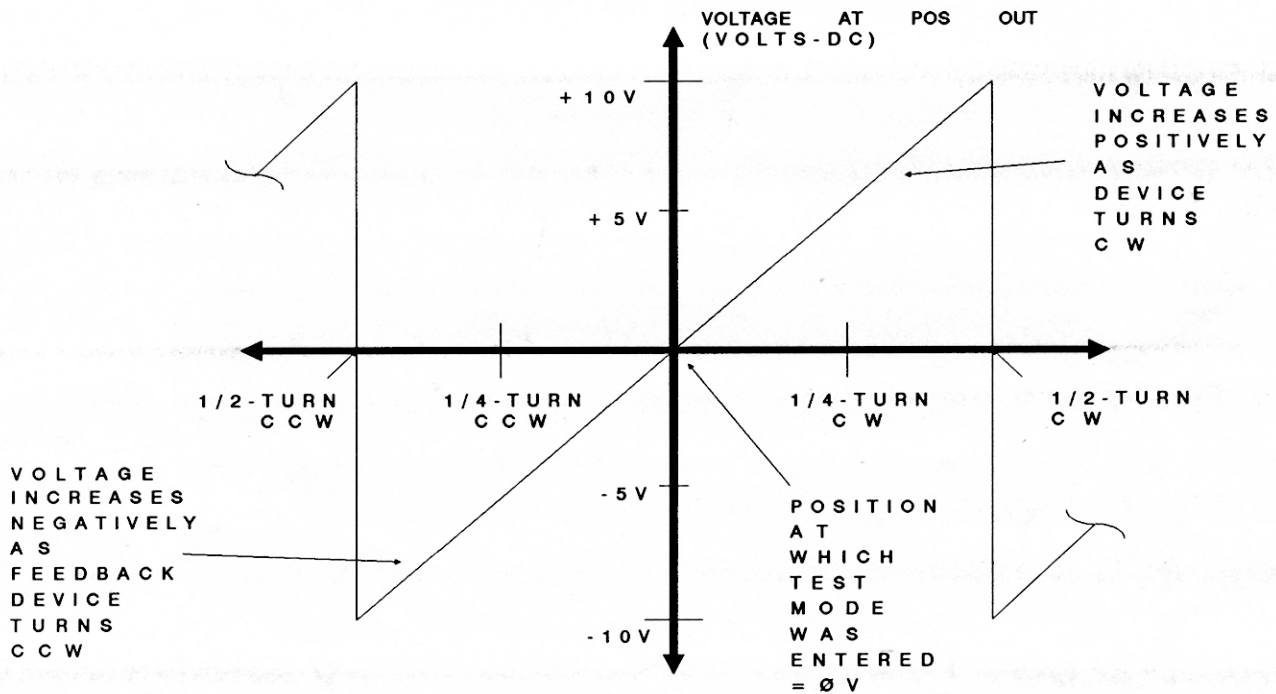

Figure 5-5 Voltage Versus Encoder Displacement in Test Mode
8. Rotate the motor shaft clockwise 1/4 turn while observing the meter which should smoothly increase (Figure 5-5) to approximately 5V dc.
If the voltage polarities are opposite to those shown in Figure 5-5, the encoder channels may be reversed.